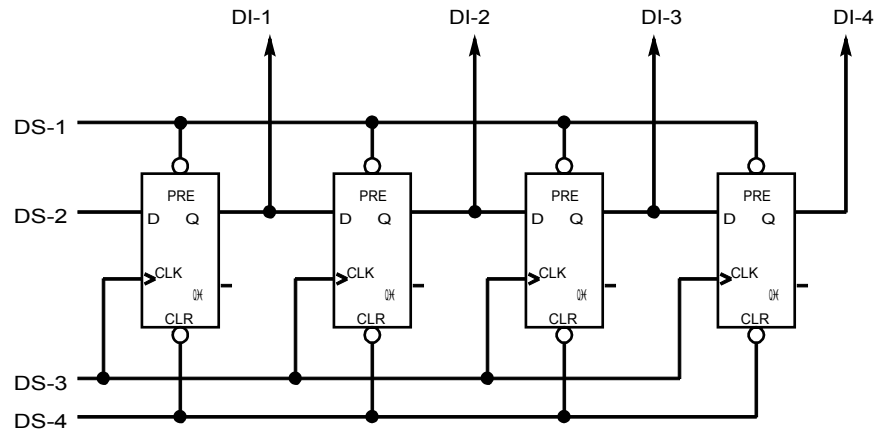

Figure 4
- A. A serial-in, parallel-out, shift register has one data input line and multiple data output lines. Such a shift register with four outputs is shown in Figure 4. Connect this circuit.
5. ALTERA MAXPLUS REQUIREMENTS: The ZIP archive with this lab contains an incomplete schematic called *fig4.gdf*. Complete this schematic so that it corresponds to Figure 4 (see Part IV). Simulate this circuit using the provided *fig4.scf* waveform file and verify it produces the results that you expect. You should have a screenshot of your schematic + simulation at the beginning of lab or demo the design for the TA using a portable PC at the beginning of the prelab.